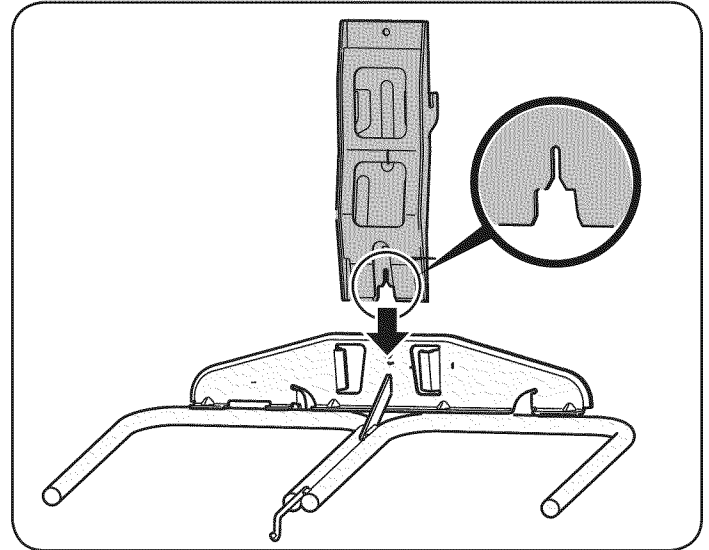

Figure 6
2. Insert the notched end of the vertical support bracket into the bin support assembly, as in Fig. 6.